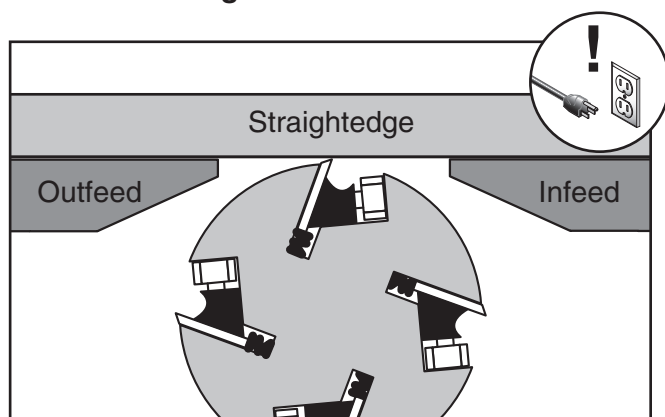

Figure 59. Infeed table even with outfeed table.
3. Use the straightedge to help adjust the infeed table exactly even with the outfeed table, as shown in **Figure 59**.